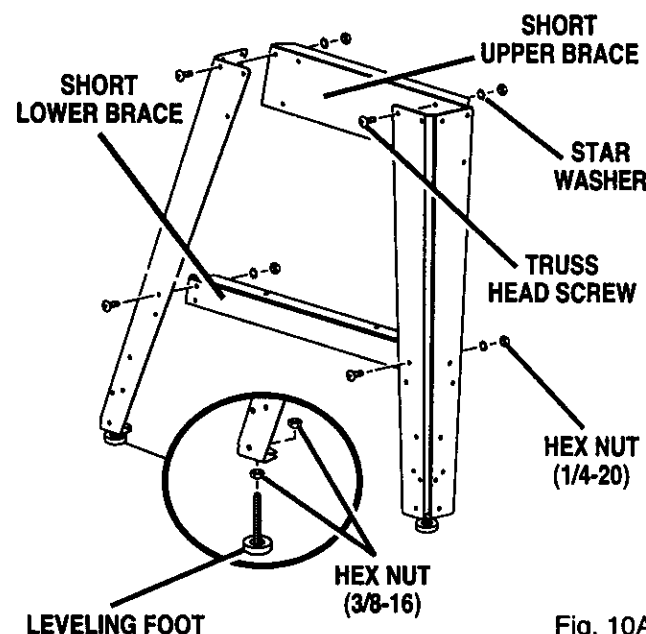

Fig. 10A
See Figures 10A - 10C.
- Place a 3/8-16 hex nut on each leveling foot and insert leveling feet into the bottom of the legs. Cap with remaining 3/8-16 hex nuts but only finger tighten. See Figure 10A.
- Install a short lower brace on the legs. See Figure 10A.